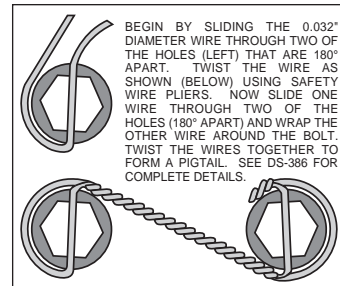

Figure 3. Safety Wire Diagram
- Orient the rotor (3) and the hat (4) as shown in Figure 1 and Photo 1. Attach rotor to hat using bolts (6), washers (5) and t-nuts (13). Using an alternating sequence, apply red *Loctite*[®] 271 to the threads, and torque to 120 **in-lbs**. Please refer to Wilwood's data sheet DS-392 (available at www.wilwood.com/Pdf/DataSheets/ds392.pdf) for complete t-nut bolt kit installation instructions. For an added measure of security, the bolts may be safety wired using standard 0.032 inch diameter stainless steel safety wire as shown in Figure 3. Refer to Wilwood's data sheet DS-386 (available at www.wilwood.com/Pdf/DataSheets/ds386.pdf) for complete safety wire installation instructions.